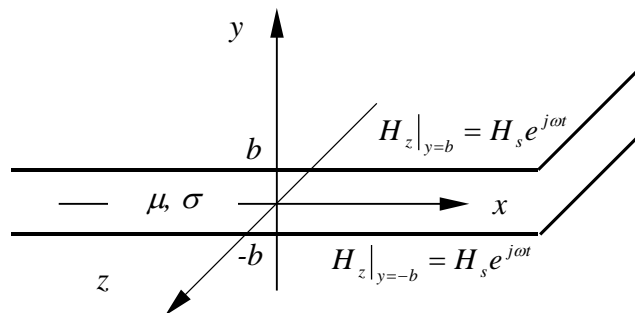

Fig. 1 One-dimensional model for time-varying electromagnetic field in thin plate
3. Figure 1 shows a simplified model for one-dimensional eddy current flow in a thin plate. The plate, having conductivity σ and permeability μ , is exposed to a sinusoidally time-varying magnetic field in the z direction, whose magnitude is H_s and angular frequency is ω .